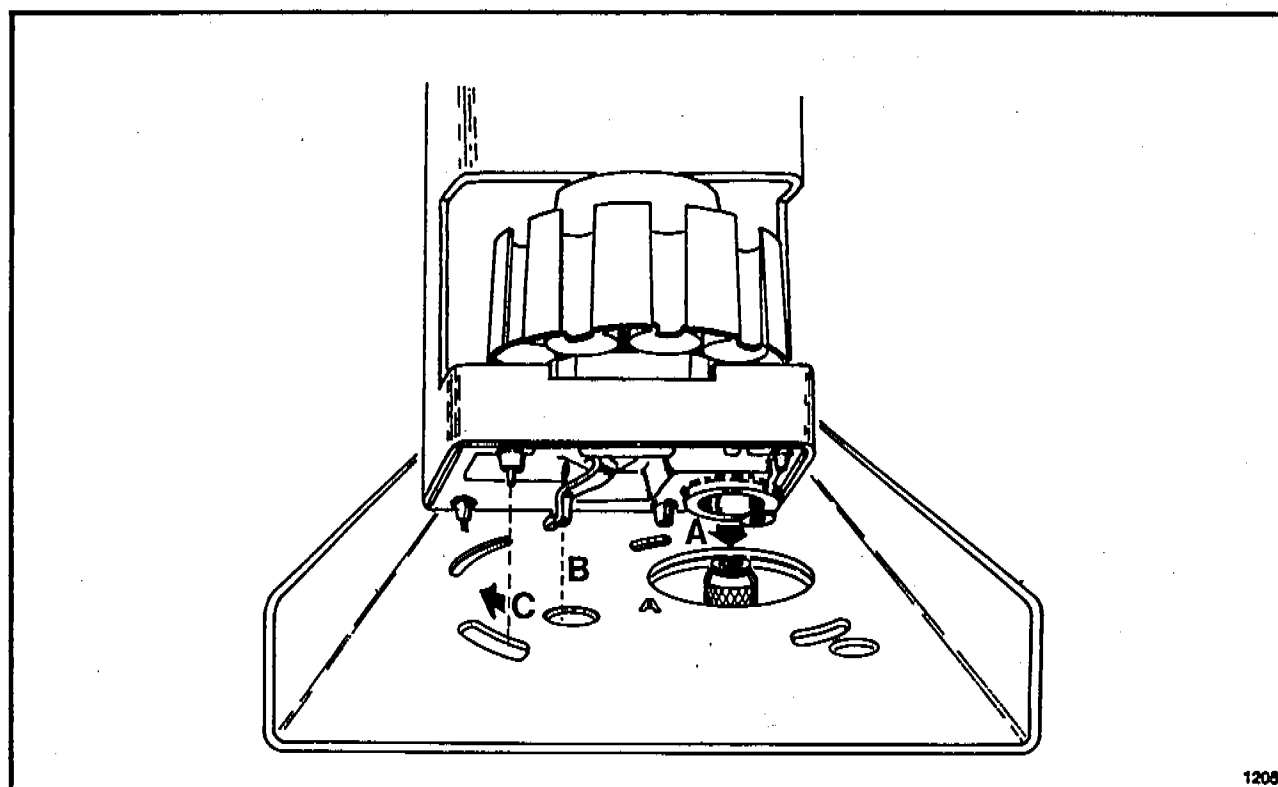

Figure 2-8. Injector Mounting Details, Front Position
1. Using Figure 2-8 or 2-9 as a guide, position the injector over the injection port. Align the opening in the base of the injector (detail "A") over the septum nut. At the same time align the bayonet type spring clip (detail "B") and the alignment pin (detail "C") with their locating holes in the mounting plate.